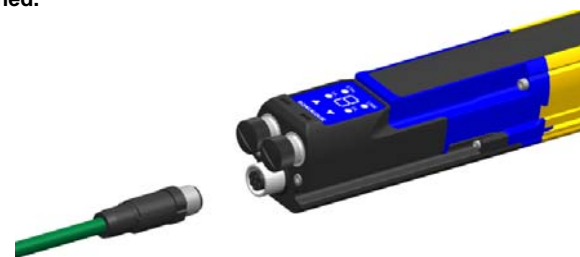

Fig. 4 Connection on Light Curtain Tail
- Insert SG4-Dongle as shown in Fig. 4
On SG4E Cascade systems SG4-Dongle can be connected either on **Master light curtain head** (as in Fig. 3) or on **last slave unit tail** (as in Fig. 4)